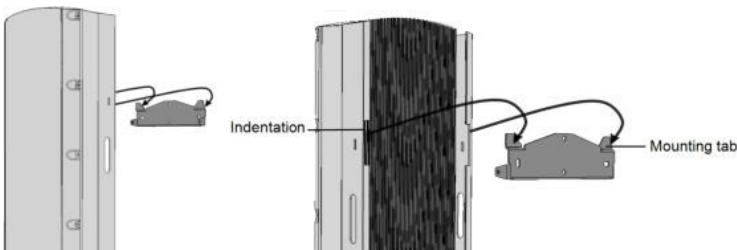

Figure 8: Hanging the inverter on the bracket
- Ensure that the flat edge of the bracket is at the bottom, as in *Figure 8*.
5. Hang the inverter on the bracket (see *Figure 8*): Lift the inverter from the sides, or hold it at the top and bottom of the inverter to lift the unit into place.
7. Insert the two supplied screws through the outer heat sink fins on both sides of the inverter and into the bracket (see *Figure 8*).